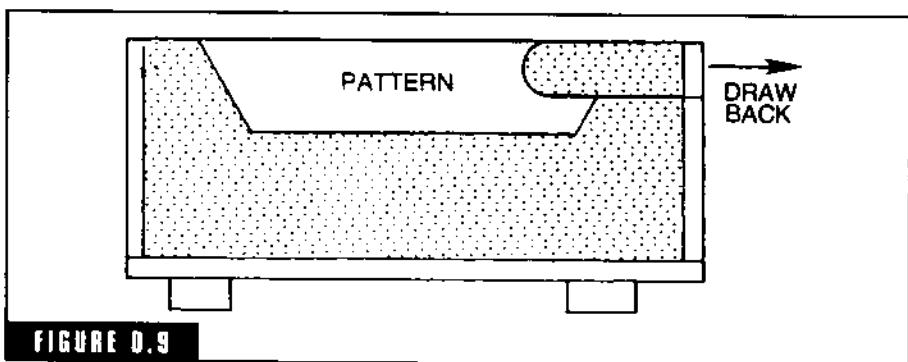

FIGURE D.9
**draw back** A section of a mold that must be lifted away on an arbor or plate to facilitate the removal of the pattern (Fig. D-9).